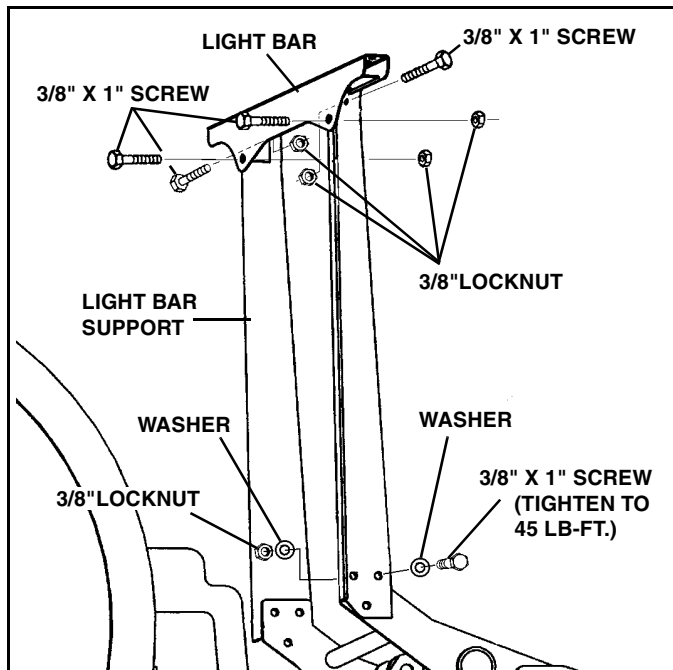

Figure 1-4
11. Remove left and right light bar supports from package. Secure each light bar support to light/lift bar with (3) 3/8" x 1" screws, washers and lock nuts from the light bar parts bag. Do not tighten at this time. (See Figure 1-4)
12. Secure the light bar to the light bar supports with (4) 3/8" x 1" screws and lock nuts. Align light bar supports to vertical position and tighten all light bar hardware. Tighten six lower screws to 45 lb-ft. (See Figure 1-4)